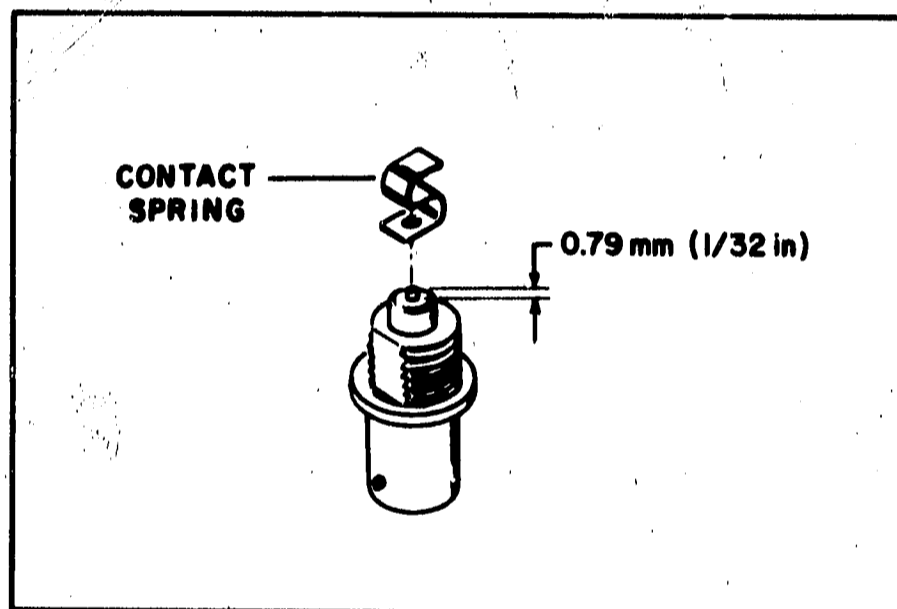

Figure 3. Cutting Center Conductor Lead to Accommodate Contact Spring
49. Parts mentioned in the following procedure are identified in Figure 3.